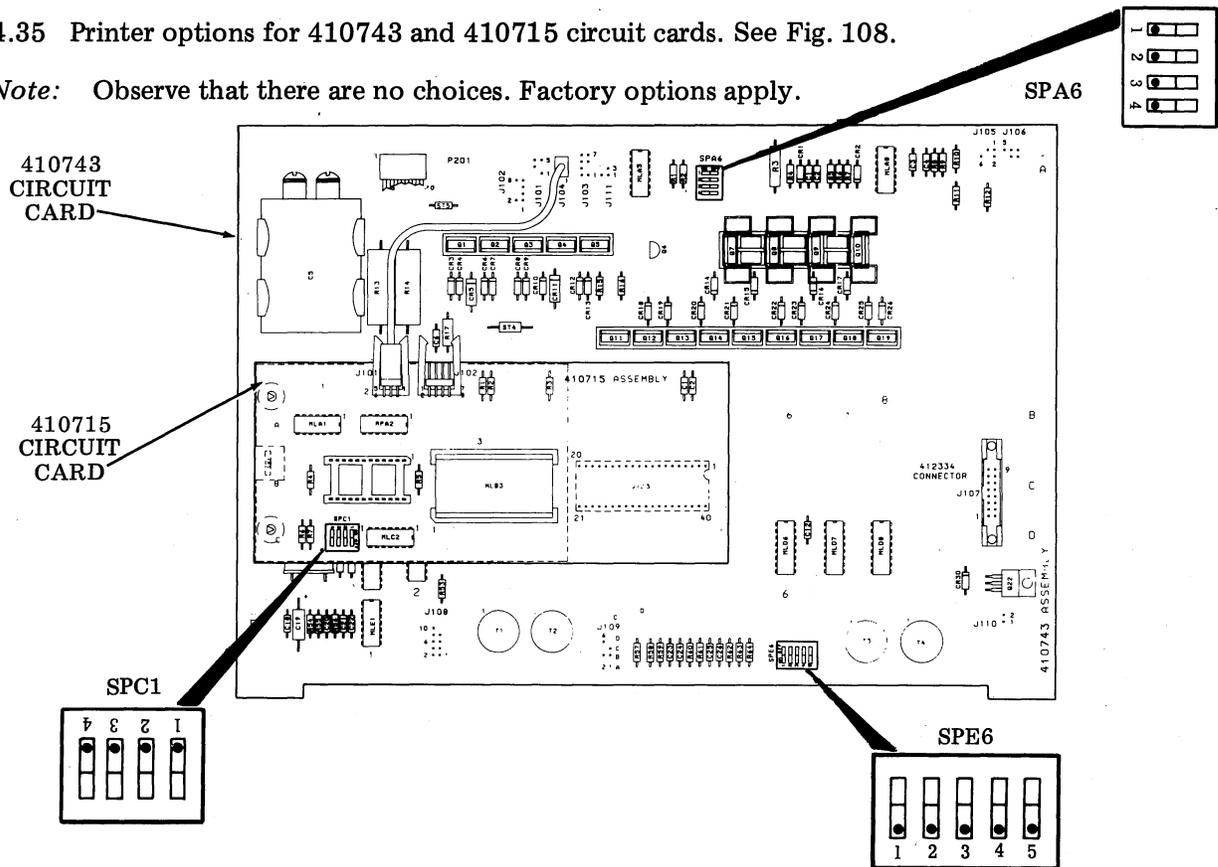

Fig. 108
4.35 Printer options for 410743 and 410715 circuit cards. See Fig. 108.